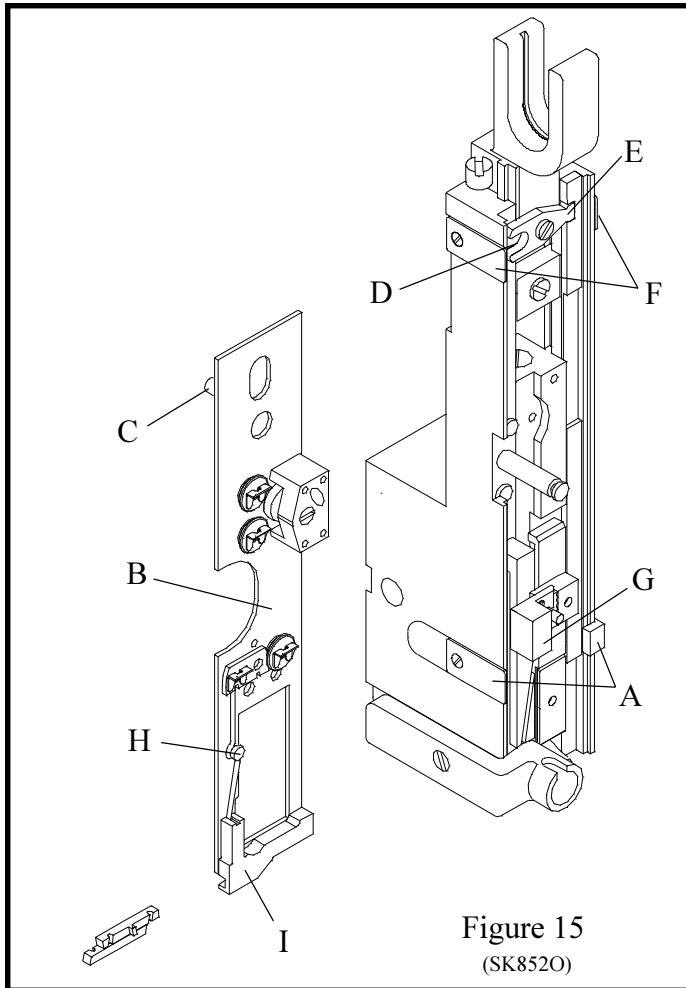

Figure 15
NOTE: (Figure 15)
7. Loosen the two face plate retaining clips (Index A, Figure 15) and rotate them downward.